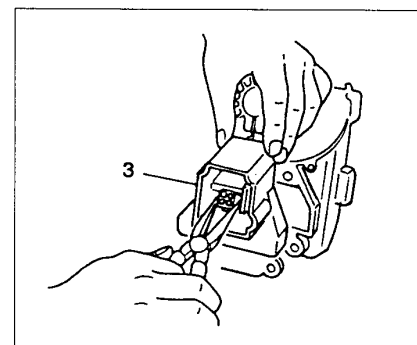

Fig. 3-9
3. Bind the female coupler with long nose pliers and push it to separate the coupler from fan case cover (3). (Fig. 3-9)